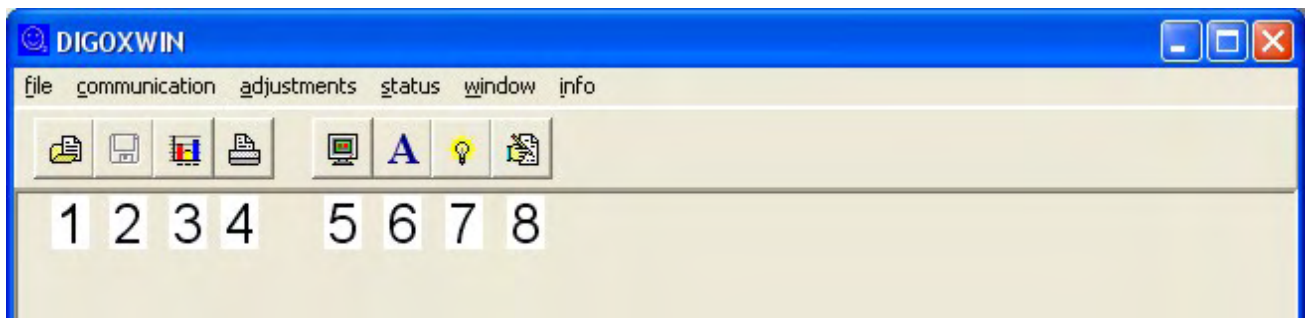

Figure 5.7
1. Activate the online mode. Click the icon (5) (figure 5.7) or select menu item COMMUNICATION/ ONLINE.
- Select icon (3) (figure 5.7) or menu item FILE\ TO EXCEL.